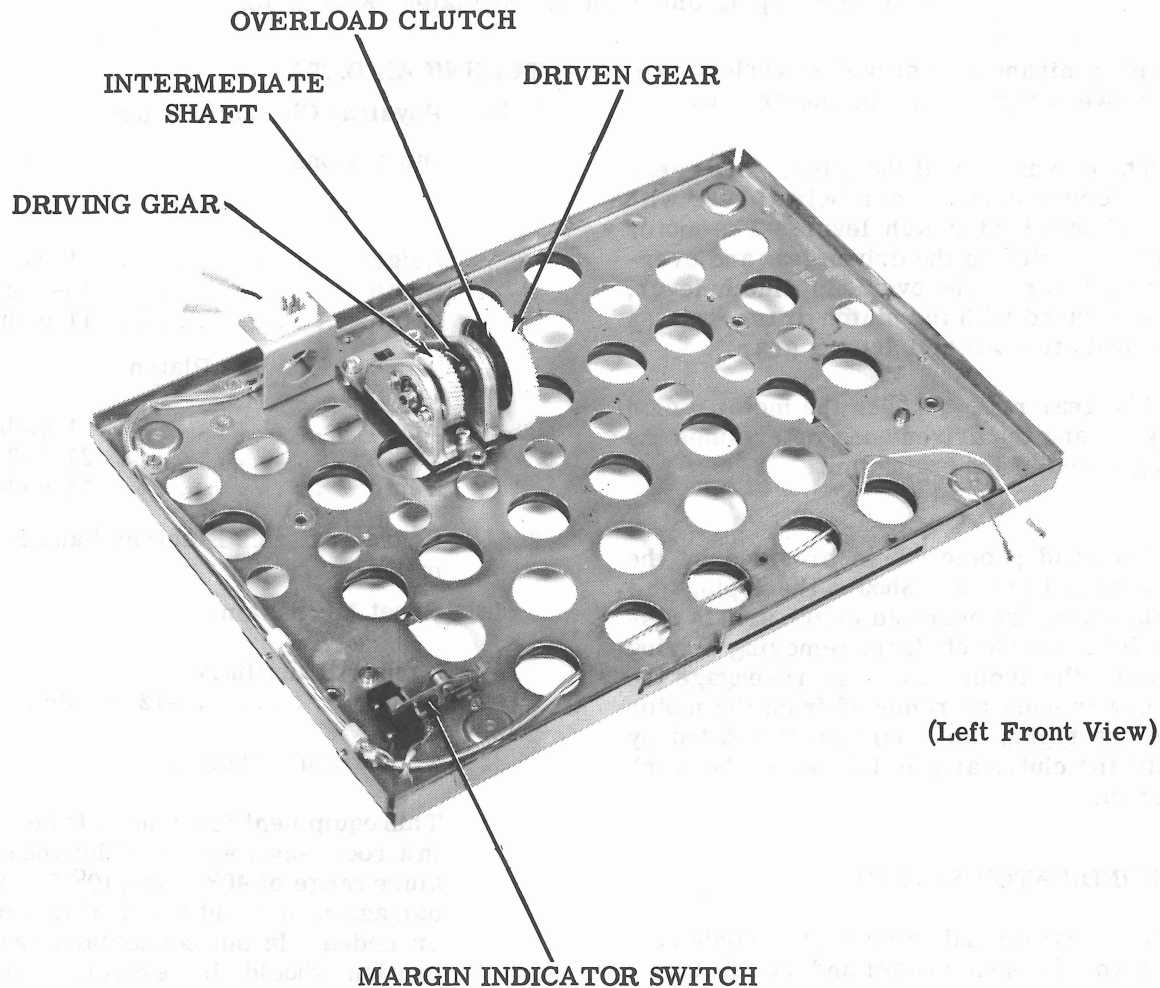

Figure 4 - Base With Intermediate Gear Assembly and Margin Indicator Switch
3.04 References made to left or right, up or down, front or rear apply to the unit in its normal operating position as viewed from the operator's position in front of the unit (Figure 4).